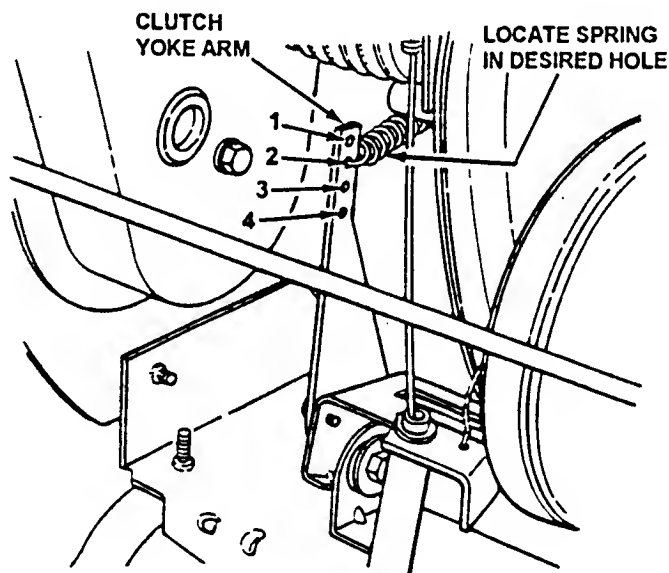

FIGURE 4.14
6. Move spring to first hole (for positive clutch action) to 4th hole (to increase clutch slippage). See Figure 4.14.